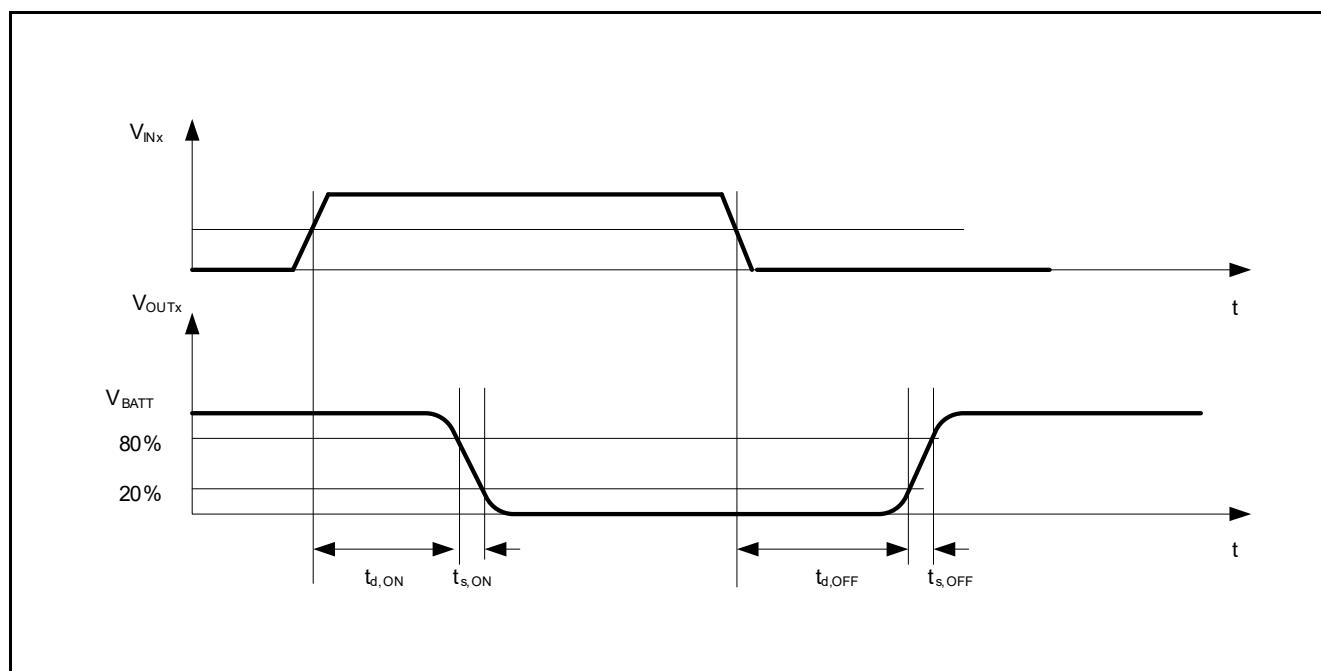
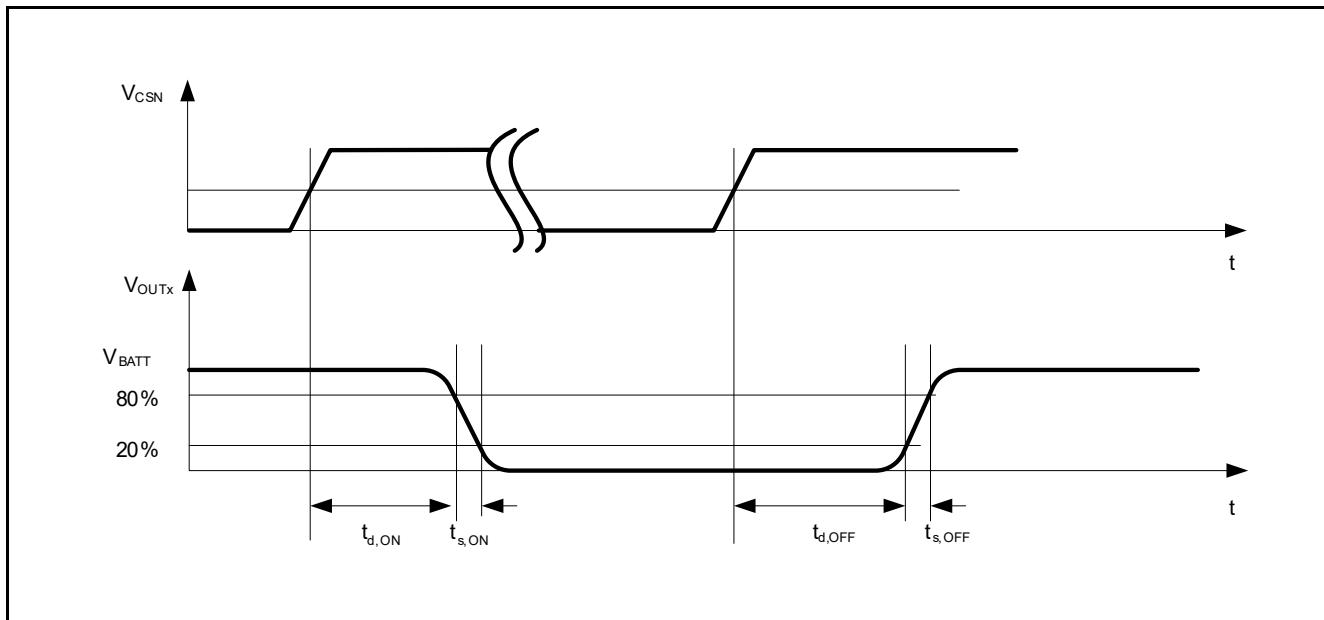

Figure 7 Timing low side switches channel 1 and 3
Figure 8 Timing low side switches channel 2, 4 and 5
1) Definition of timing see Figure 7 or Figure 8.